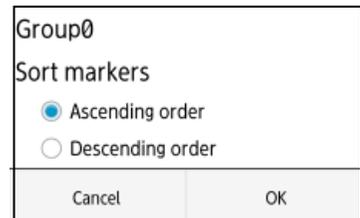

Figure 4-69 Sort marker screen
- (1) Tap **[Sort marker]** menu. Then the sort marker screen (Figure 4-69) appears. The mark ● shows the current setting.
- (2) Tap a desired setting, and confirm the mark ● is attached to the selected setting.
- (3) Tap **[OK]** to sort the ID numbers of markers, then the screen return to the main screen. To cancel the sort marker, tap **[Cancel]**, then the screen returns to the main screen without sorting the marker IDs.